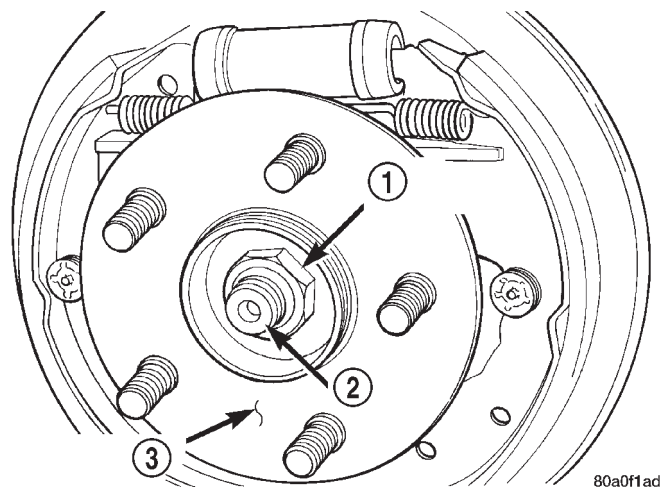

Fig. 144 Hub/Bearing Retaining Nut
(23) Remove the rear hub/bearing retaining nut (Fig. 144).
(5) Push the park brake cable fully into the rear brake support plate. Be sure locking tabs on cable retainer are expanded to ensure park brake cable is securely held in the support plate.
(6) Install hub/bearing assembly on rear spindle. Then install **a new** rear hub/bearing assembly retaining nut (Fig. 144). Torque hub/bearing assembly to spindle retaining nut to 250 N·m (185 ft. lbs.).